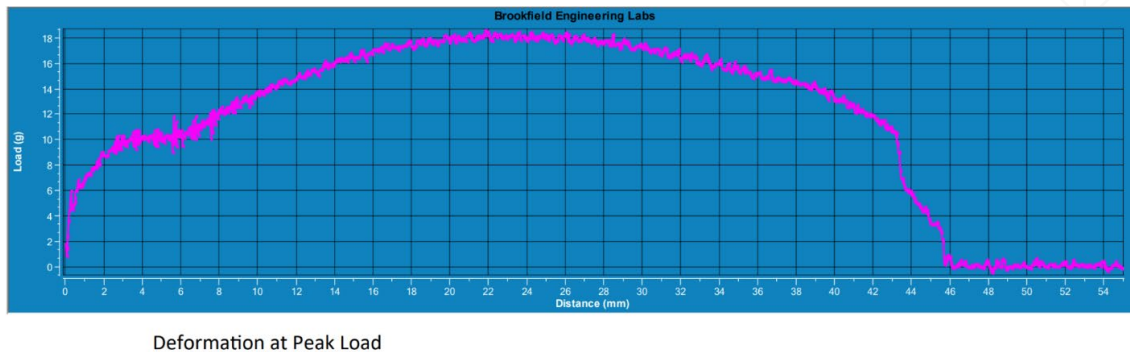

Figure 2 - The Load/Distance graph for the hardness and extensibility of a gummy sweet using a 6 mm cylinder probe.
- Figure 2: The Load vs. Distance graph illustrates the strain hardening, necking, and eventual breaking point of the gummy sweet.